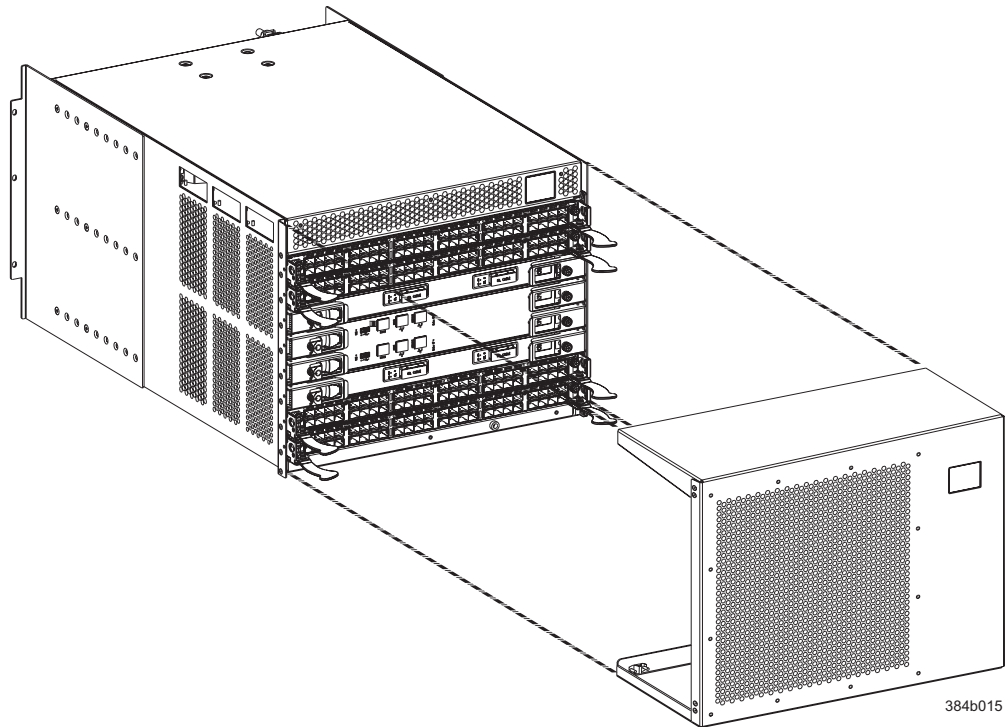

Figure 32. Chassis door
2. Push the door into place. It will snap onto the studs. See Figure 32.